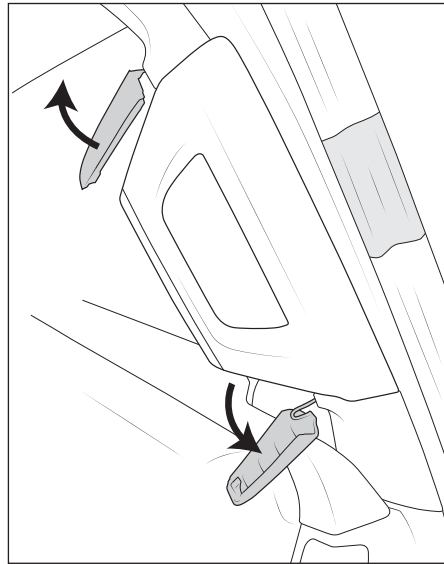

Figure 19
5. Unclip endcaps around A pillar grab handle (fig. 19).